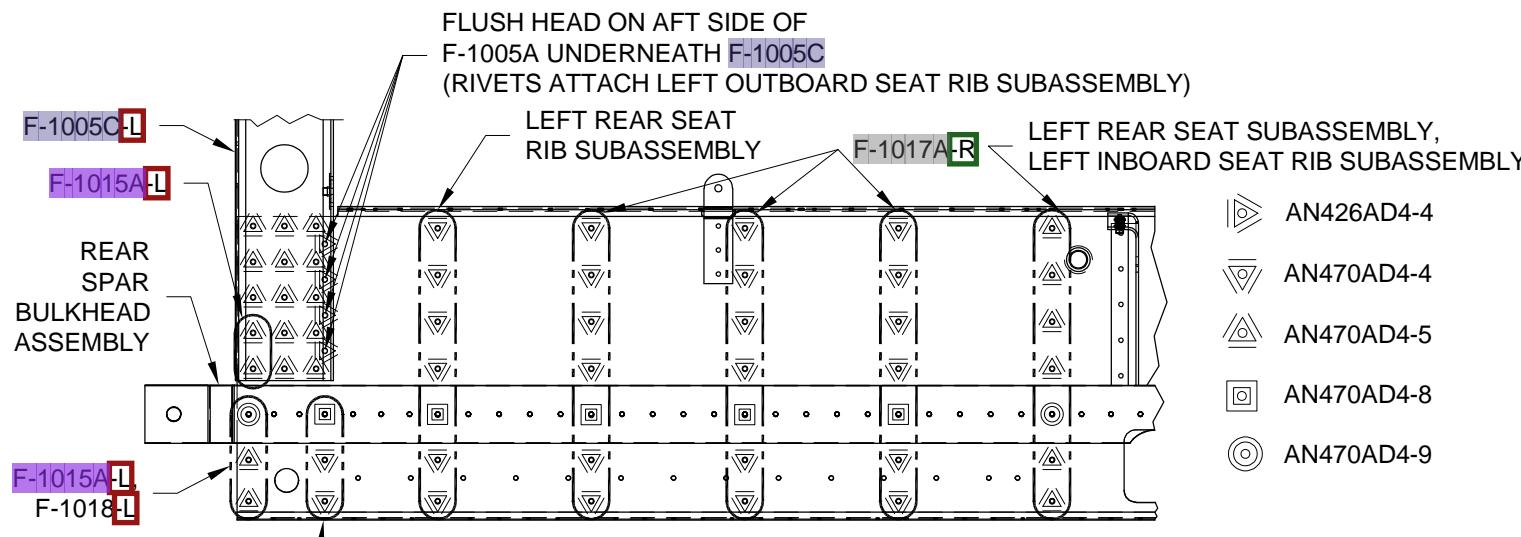
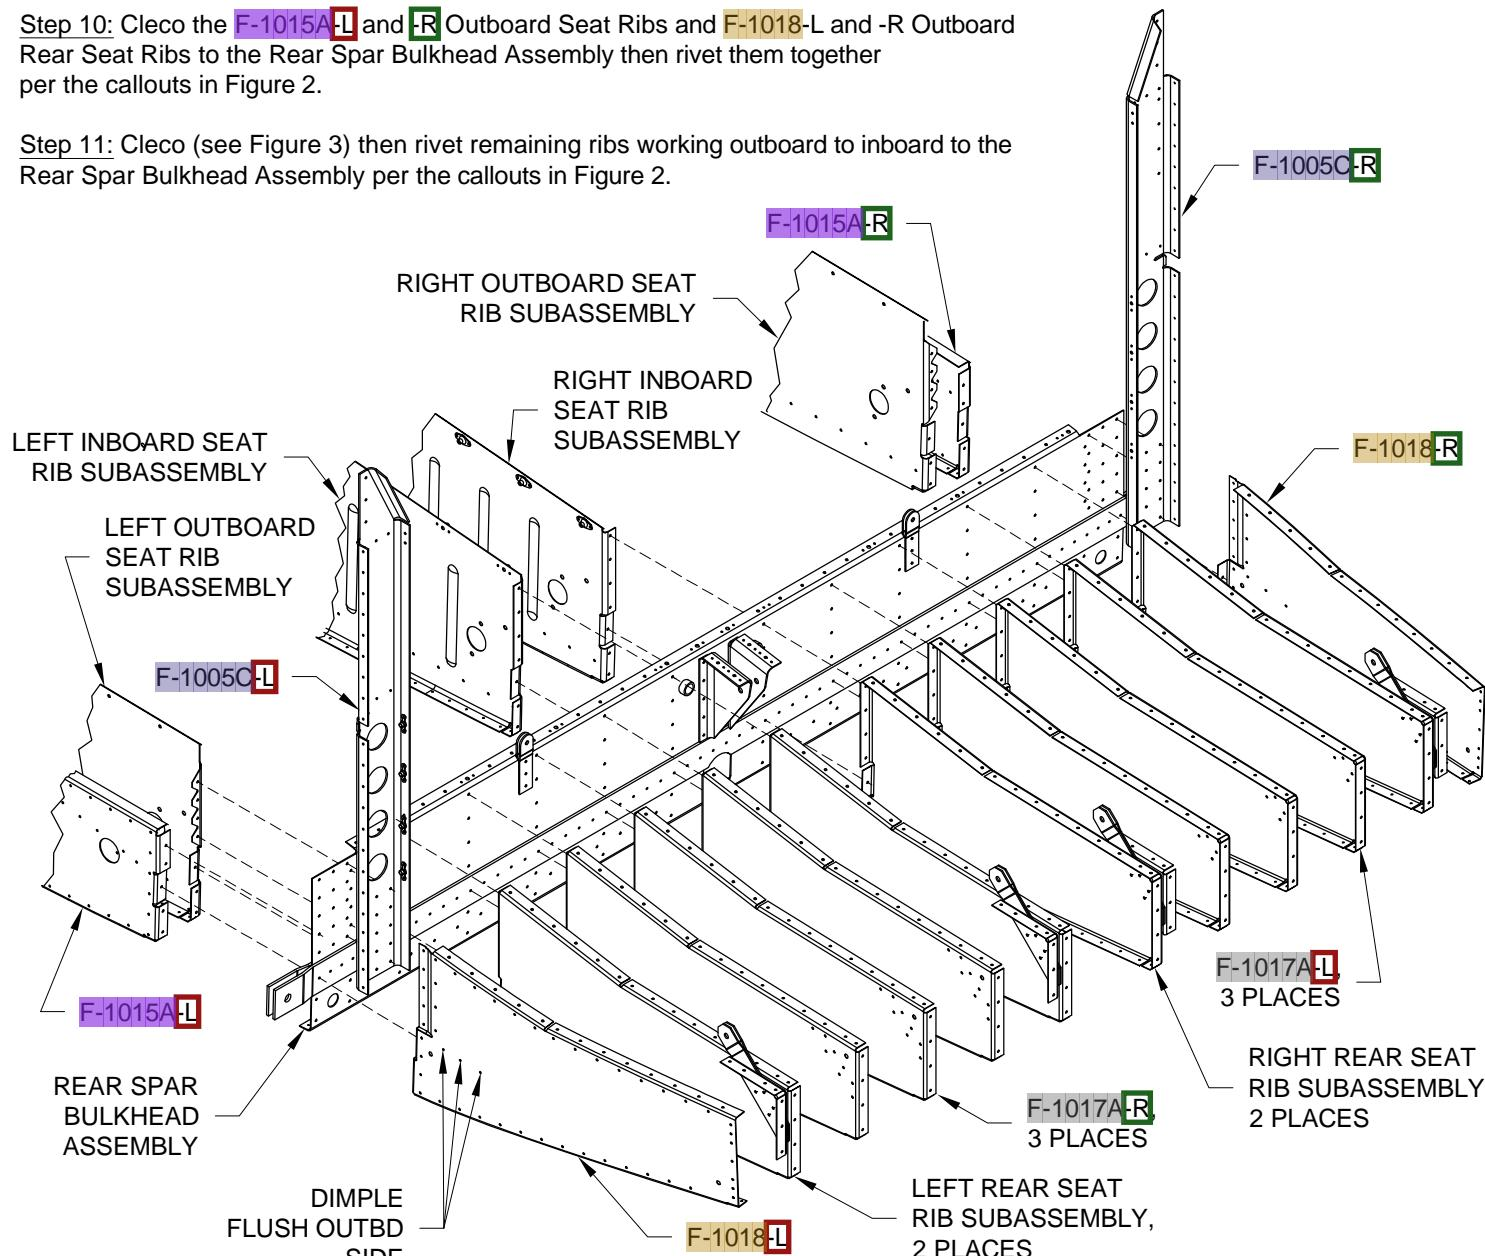

FIGURE 2: RIB TO REAR SPAR BULKHEAD RIVETS
FIGURE 3: RIB ATTACH TO REAR SPAR BULKHEAD
Step 1: Dimple all #40 holes in the web of the F-1015A-L Outboard Seat Ribs. Flute the lower flange of the F-1015A-L ribs until the holes in the rib match the corresponding holes in the F-1076 Center Bottom Skin. Cleco the outboard seat ribs and Inboard Seat Rib Subassemblies to the Rear Spar Bulkhead Assembly as shown in Figure 2 and Figure 3. Final-Drill #30 all the holes common between the ribs and the rear spar bulkhead. Uncleco the outboard seat ribs and inboard seat rib subassemblies.
Step 2: Uncleco the F-1005C-L and F-R Bulkhead Side Channels from the Rear Bulkhead Assembly. Cleco then final-drill #30 Left and Right Outboard Seat Rib Subassemblies to the rear spar bulkhead assembly as shown in Figure 3. Uncleco the outboard seat rib subassemblies from the rear spar bulkhead assembly. Note that the rivets that attach this flange to the rear spar bulkhead assembly are AN426AD4 rivets and that the flush head goes on the aft side of the rear spar bulkhead assembly underneath the F-1005C-L and F-R Bulkhead Side Channels, see Figure 2. Deburr and dimple these holes now for the head of an AN426AD4 rivet. Cleco the bulkhead side channels back in place.
Step 5: Cleco the F-1017A-L and F-R Rear Seat Ribs, Left and Right Rear Seat Rib Subassemblies and F-1018-L and F-R Outboard Rear Seat Ribs to the to the Rear Spar Bulkhead Assembly as shown in Figure 2 and Figure 3. Final-Drill #30 all the holes common between the ribs and the rear spar bulkhead.
Step 6: Disassemble and deburr all parts. Final-Drill #40 and dimple the 3/32 holes in the web of the F-1018-L and F-R Outbd Rear Seat Ribs **except** the holes common to the F-1005C-L and F-R Bulkhead Side Channels and the aft row of holes. Dimple the three #30 holes in the web of F-1018-L and F-R as shown in Figure 3. Prime parts if/as desired.
Step 11: Cleco (see Figure 3) then rivet remaining ribs working outboard to inboard to the Rear Spar Bulkhead Assembly per the callouts in Figure 2.